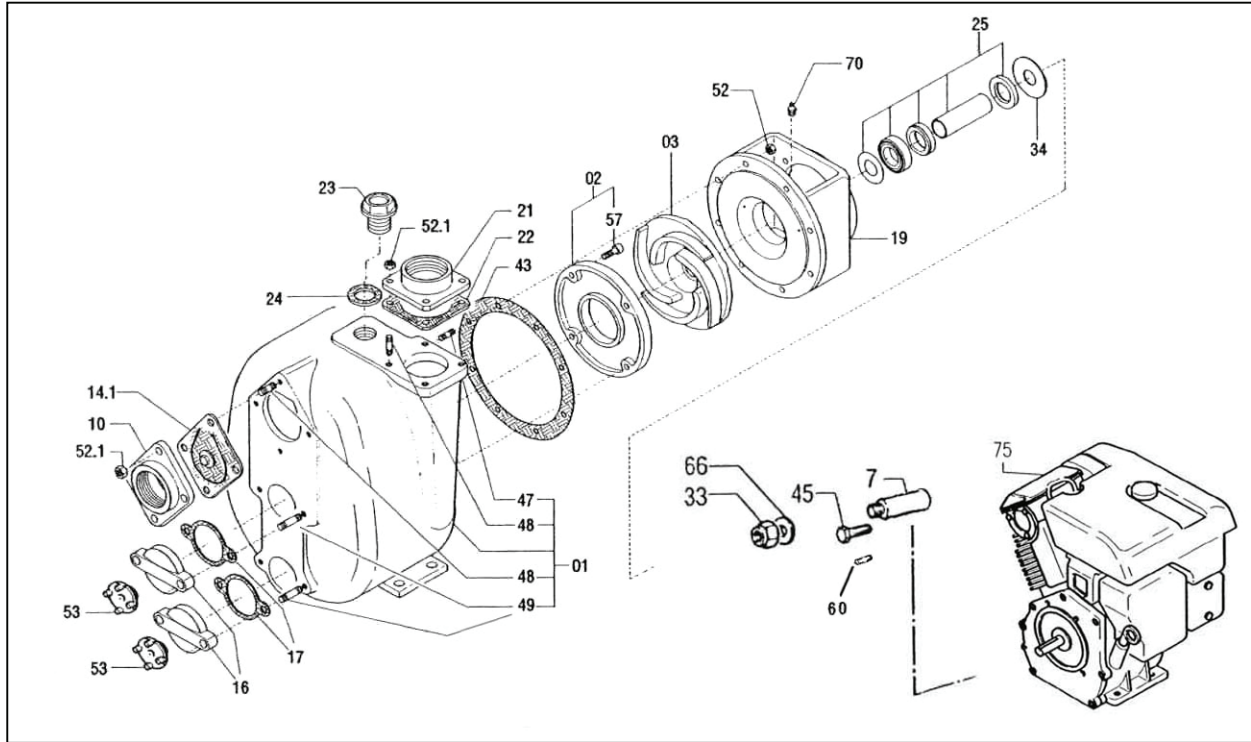

Figure 44
9.3.4 Check Valve Assembly (figure 44, #14.1)
1. Drain the casing (figure 44, #01) through the drain plug (figure 44, #16).
2. Remove the suction flange nuts (figure 44, #52.1).
3. Slip off the suction flange (figure 44, #10).
4. Slip off the check valve (figure 44, #14.1).
5. Mount the new check valve ((figure 44, #14.1) with the hinge towards the top.